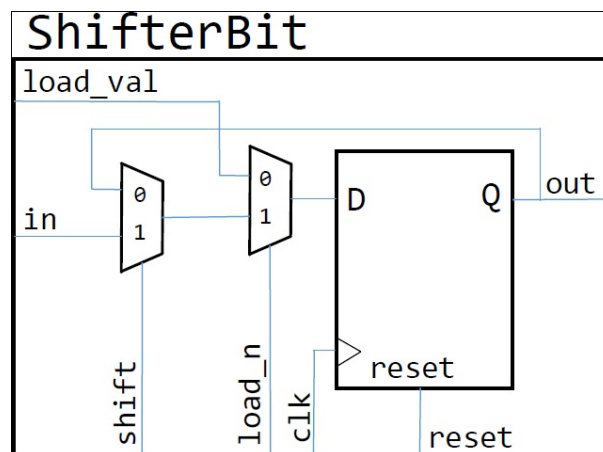
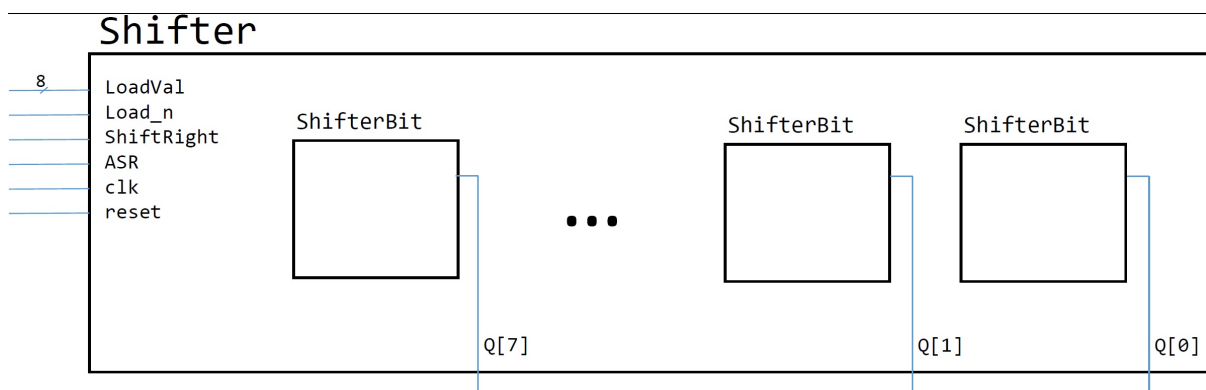

Figure 4: Single-bit shift-register
Figure 5: 8-bit shift-register of Part III. **None** of internal connections are shown here.
A shift register is a row of flip-flops where each flip-flop moves its contents to the next flip-flop in the row on the rising clock edge. Figure 4 shows one bit of this shift register. It contains a positive edge-triggered flip-flop that stores the ShifterBit's current value and two multiplexers that determine the source of the ShifterBit's next value.
To create an 8-bit shift-register, you will need eight instances of the circuit in Figure 4. Connect these together to design your 8-bit shift-register with optional arithmetic shift and parallel load as shown in Figure 5.
3. The *ShiftRight* input which feeds into the *shift* input of all eight instances of the ShifterBit circuit in Figure 4.
For the leftmost ShifterBit, you should design a circuit that will perform sign-extension when the signal *ASR* is high (arithmetic right shift) or load zeros if *ASR* is low (logic right shift). This special circuit is not shown in Figure 5.
1. What is the behaviour of the 8-bit shift register shown in Figure 5 when *Load_n* = 1 and *ShiftRight* = 0? Briefly explain in your prelab. **(PRELAB)**
2. Draw a schematic for the 8-bit shift register shown in Figure 5 including the necessary connections. Your schematic should contain eight instances of the one-bit shifter (i.e. the ShifterBit) shown in Figure 4 and all the wiring required to implement the desired behaviour. Label the signals on your schematic with the same names you will use in your Logisim circuit. **(PRELAB)**
3. Starting with the built-in positive edge-triggered D flip-flop found at *Memory > D Flip Flop*, use this D flip-flop with instances of the *mux2to1* module from Lab 2 to build the one-bit shifter shown in Figure 4. **(PRELAB)**